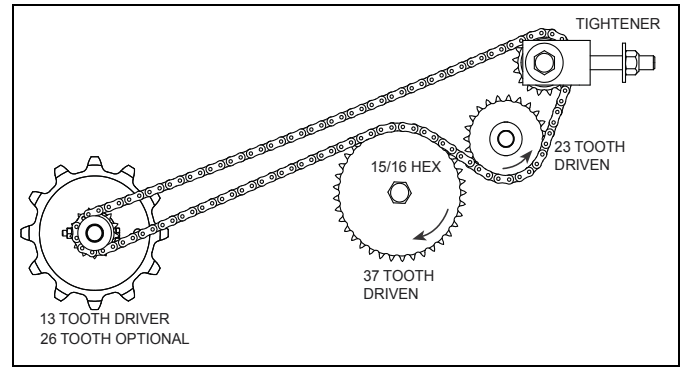

Figure 3-6: Driver Sprocket
1. Remove Drive Bolt near 13 tooth (or optional 26 tooth) Driver Sprocket. See Figure 3-6.